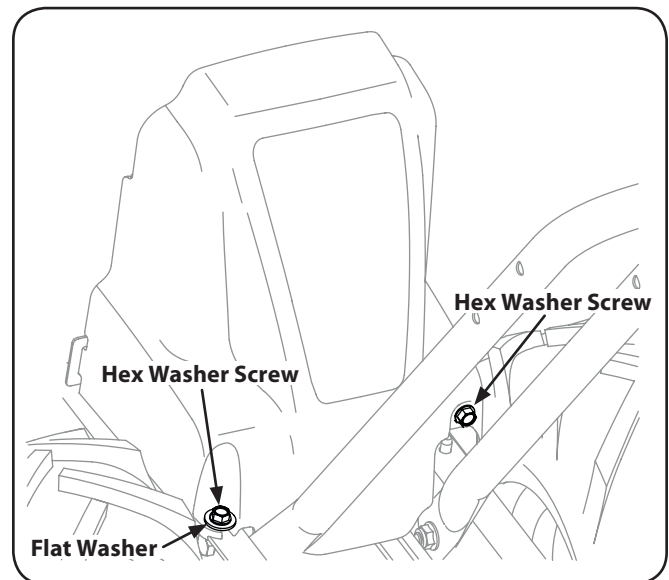

Figure 7-2
3. Remove the hex washer screw ($\frac{1}{4}$ -20 x .500) and flat washer (.28 x .74 x .500) from the left side of the belt cover and the hex washer screw ($\frac{1}{4}$ -20 x .500) from the right side of the belt cover. Remove the belt cover. See Fig. 7-2.